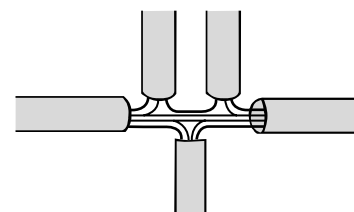

Figure 8.
- Place the two exposed twist tie ends into the assembly created in step 8, creating a five-way juncture (see Figure 8).